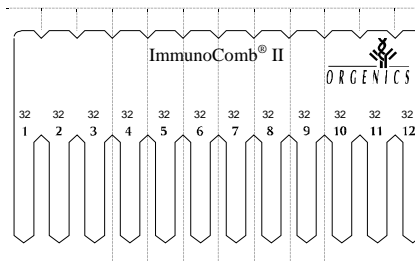

Figure 4. Breaking the Card
- b. Bend and break the Card vertically or cut with scissors (see Figure 4) to detach the required number of teeth (No. of tests including 2 controls).